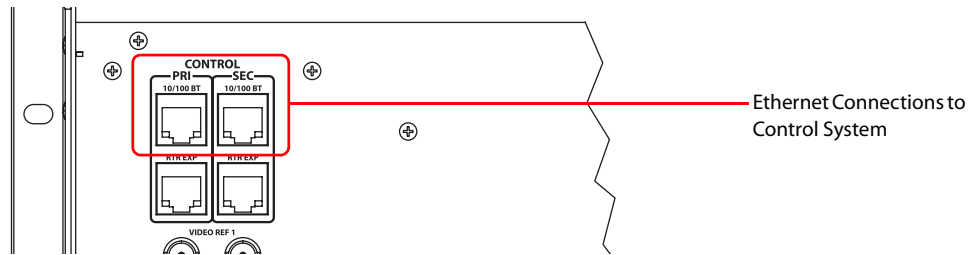

Figure 2-17. Ethernet Connections to Control System (Rear View)
- 1 Locate the Ethernet connections on the rear of the router, as shown in Figure 2-17. Ethernet control connections are labeled 'PRI' and 'SEC'.